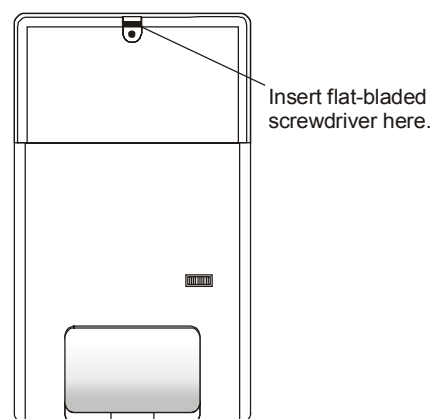

Figure 3: Removing the cover
2. Insert a small, flat-bladed screwdriver in the slot and push the handle down to lift the cover off of the base (as shown in Figure 3).